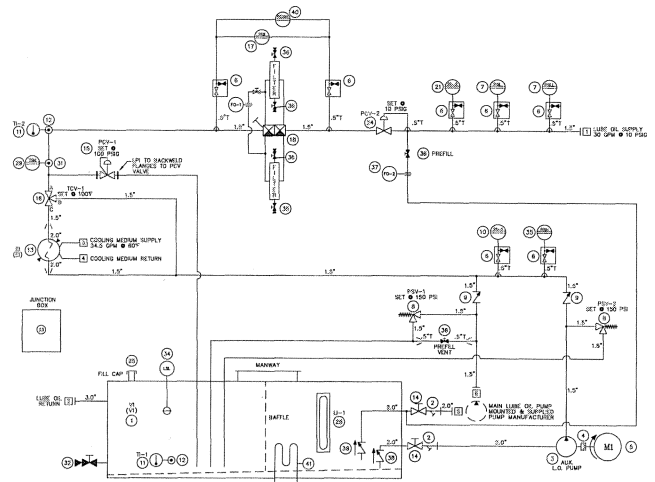

Figure 13. API 610 Schematic with Typical Options used with permission of the American Petroleum Institute.
**TYPICAL SCHEMATICS (Figure 13)**
An API 610 typical schematic (Figure 13) that shows a system with some standard options as listed below.